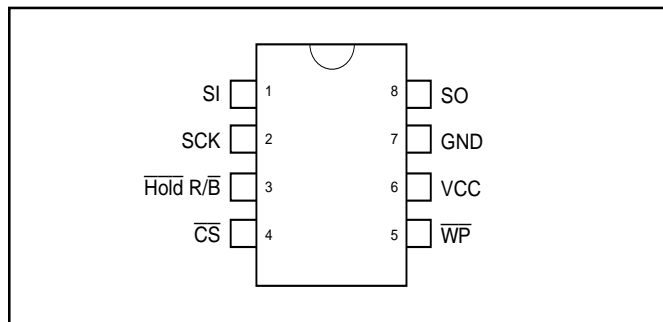

Figure 3A. NX25F011B and NX25F021B
The NX25F011B, NX25F021B, and NX25F041B are available in a 28-pin TSOP (Type I) surface mount package. The NX25F011B and NX25F021B are available in either an 8-pin SOIC and a 14-pin TSOP package (contact NexFlash for information on the 14-pin TSOP package). See Figure 3A, 3B and Table 1 for pin assignments. All interface and supply pins are on one side of the TSOP package. The “No Connect” (NC) pins are not connected to the device, allowing the pads and the area around them to be used for routing PCB system traces. The devices are also available in a cost-effective and space-efficient removable Serial Flash Module package.